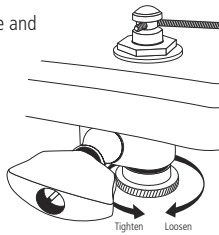

Figure 2: Stringing Sperzels
**Note:** If you have Sperzel® locking tuners on your guitar (Figure 2), then you don't have to put any winds on the post. Simply cut or loosen the old string and loosen locking pin by turning thumbwheel counter-clockwise. Remove old string and feed new string through post-hole. Tighten thumbwheel clockwise to lock the pin on to the string. Tune the string to pitch without any wraps on the post and cut off excess string. **Note:** Do not remove thumbwheel or use pliers to tighten/loosen Sperzel tuning machines.